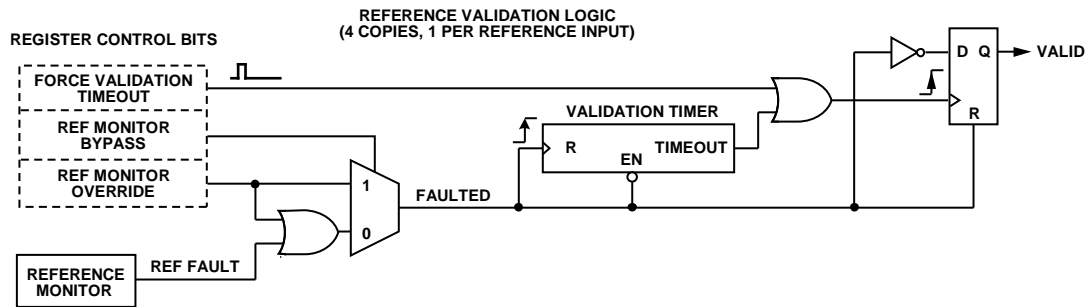

Figure 32. Reference Validation Override
Register 0x0A0E to Register 0x0A10 provide the user with the ability to override the reference validation logic, enabling a certain level of troubleshooting capability. Each of the four input references has a dedicated block of validation logic, as shown in Figure 32. The state of the valid signal at the output defines a particular reference as valid (1) or not valid (0), which includes the validation period (if activated) as prescribed by the validation timer. The override controls are the three control bits on the left side of the diagram.